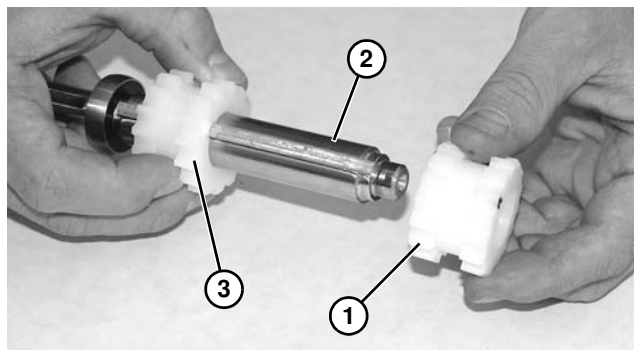

Figure 71
3. Slide free moving sprocket(s) (**Figure 71, item 1**) off the end of pulley (**Figure 71, item 2**).
4. Measure location of fixed sprocket (**Figure 71, item 3**), loosen set screw, and remove fixed sprocket.